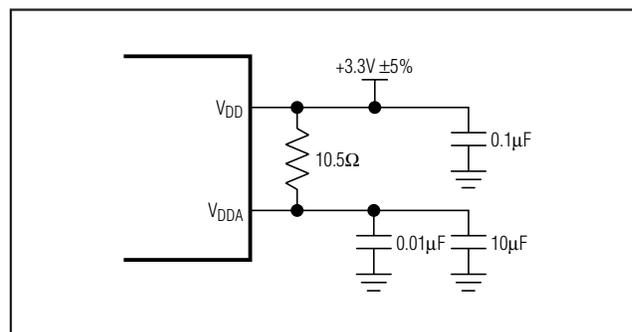

Figure 5. Analog Supply Filtering
**Note 1:** A series resistor of up to  $10.5\Omega$  is allowed between  $V_{DD}$  and  $V_{DDA}$  for filtering supply noise when system power-supply tolerance is  $V_{DD} = 3.3V \pm 5\%$ . See Figure 5.
**Note 10:** Measured at 125MHz output with  $40mV_{P-P}$  sinusoidal signal on the supply at 100kHz. Measured with network in Figure 5.
The MAX3697A/MAX3698A are mixed analog/digital ICs. The PLL contains analog circuitry susceptible to random noise. To take full advantage of on-board filtering and noise attenuation, in addition to excellent on-chip power-supply rejection, these parts provide a separate power-supply pin, VDDA, for the VCO circuitry. The purpose of this design technique is to ensure clean input power supply to the VCO circuitry and to improve the overall immunity to power-supply noise. Figure 5 illustrates the recommended power-supply filter network for VDDA. This network requires that the power supply is +3.3V ±5%. Decoupling capacitors should be used on all other supply pins for best performance.